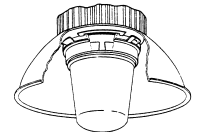

FIGURE 5
3. Continue to rotate reflector clockwise until reflector tabs engage final captivated bosses and the reflector "snaps into position." See figure 5.